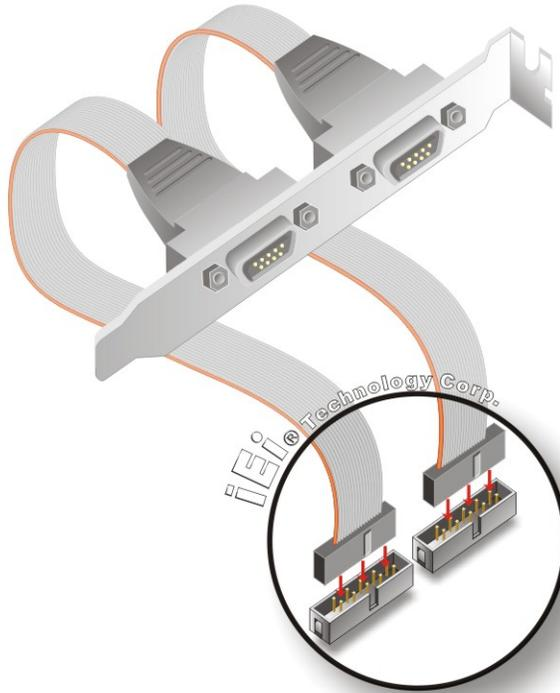

Figure 5-8: Dual RS-232 Cable Installation
Step 2: Insert the cable connectors. Insert one connector into each serial port box headers. See Figure 5-8. A key on the front of the cable connectors ensures the connector can only be installed in one direction.